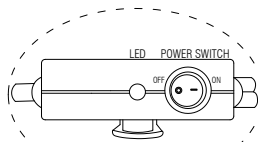

Figure 1
2. Figure 1: There are on/off switch, Led light and mp3 input on the top of battery box.
A. When the switch is on (I), the Led will be on and the ANR function starts working.